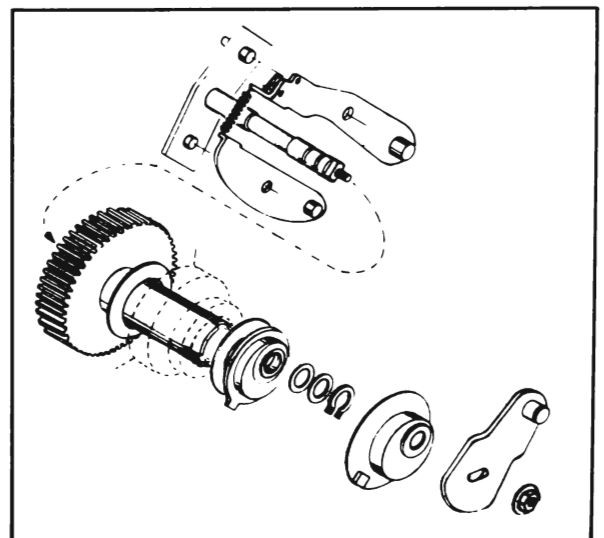

Figure 1-31—Drive Gear Mechanism
1. Remove the crank arm retaining nut. See Figure 1-31.